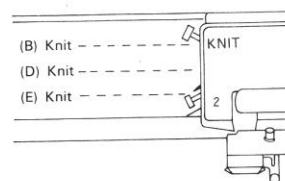

Fig.26
"KNIT" Setting: With the lever in this setting needles in any of the positions (B) or (D) will knit, and further, when setting the return cam lever to No.2, needles in position (E) will also knit. (Fig.26)